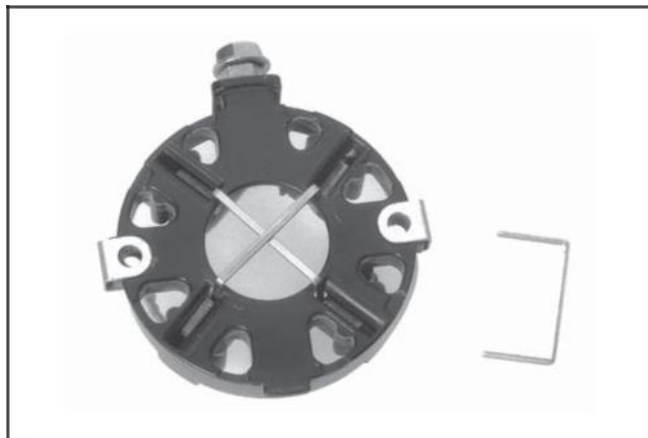

Figure 8-24. Style "B" Commutator End Cap with Brushes.
- 4a. If the brush assembly is not being replaced, position the brushes in their pockets in the carrier, move them to the retracted position, and install carton staples to retain them. See Figure 8-24.